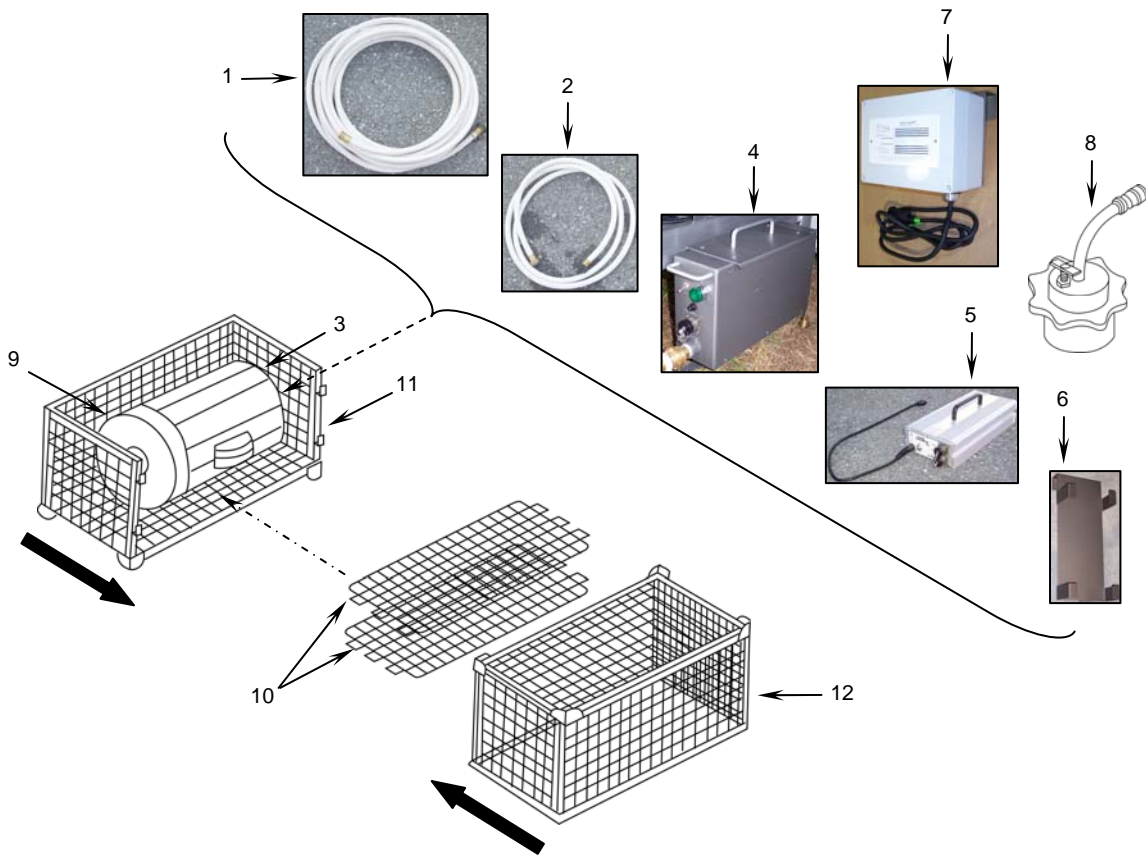

Figure 47. Packing Second Storage Rack Assembly.
- a. Pack the 50-ft water supply hose (**Figure 47, Item 1**) and the 15-ft sink fill hose (**Figure 47, Item 2**) into the second waste receptacle (**Figure 47, Item 3**).
- b. Wrap the sink fill pump assembly (**Figure 47, Item 4**) in barrier material and pack into the second waste receptacle.
- c. Place the power converter (**Figure 47, Item 5**) in its hanging bracket (**Figure 47, Item 6**). Wrap in barrier material and place into the second waste receptacle).
- d. Wrap the CO monitor (**Figure 47, Item 7**) in barrier material and pack into the second waste receptacle.
- e. Place the fuel can adapter (**Figure 47, Item 8**) in the fuel can adapter bag and place in the waste receptacle.
- f. Place the lid (**Figure 47, Item 9**) on the waste receptacle and seal with duct tape.
- g. Place two shelves (**Figure 47, Item 10**) into the bottom of an empty storage rack assembly (**Figure 47, Item 11**).
- h. Place the packed waste receptacle (**Figure 47, Item 3**) into the storage rack assembly (**Figure 47, Item 11**).
- i. Use two-person lift (one person on each end), carefully turn an empty storage rack (**Figure 47, Item 12**) upside down and position it so that its empty side faces the empty side of the just-packed storage rack.